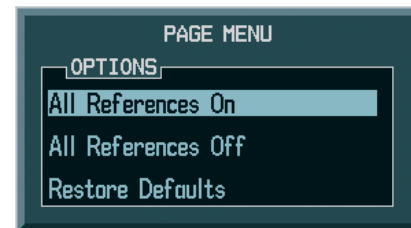

Figure 2-6 Timer/References Menu
- 3) To view all Vspeed flags, highlight 'All References On' and press the **ENT** Key (Figure 2-6).